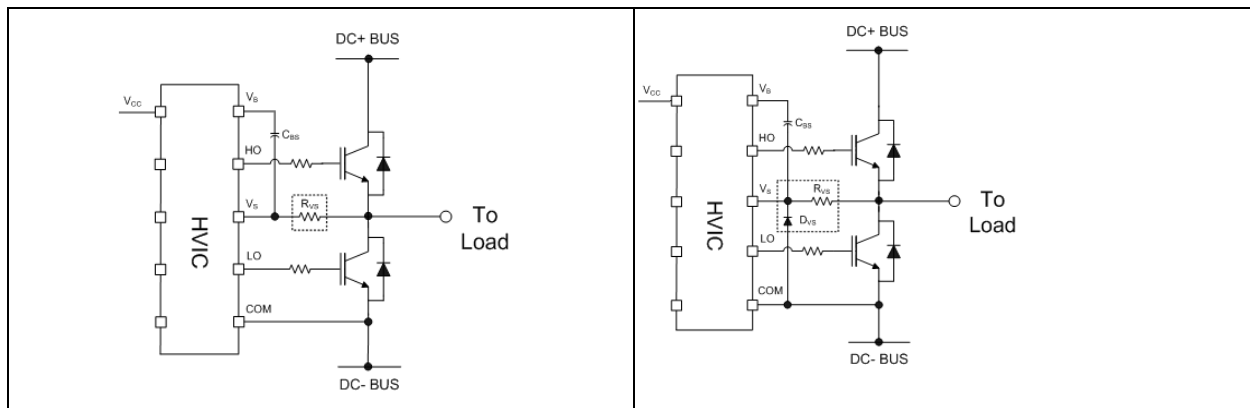

**Figure 16** Avoid antenna loops
**Gate Drive Loops:** Current loops behave like antennas and are able to receive and transmit EM noise (see Figure 16). In order to reduce the EM coupling and improve the power switch turn on/off performance, the gate drive loops must be reduced as much as possible. Moreover, current can be injected inside the gate drive loop via the MOSFET collector-to-gate parasitic capacitance. The parasitic auto-inductance of the gate loop contributes to developing a voltage across the gate-emitter, thus increasing the possibility of a self turn-on effect.